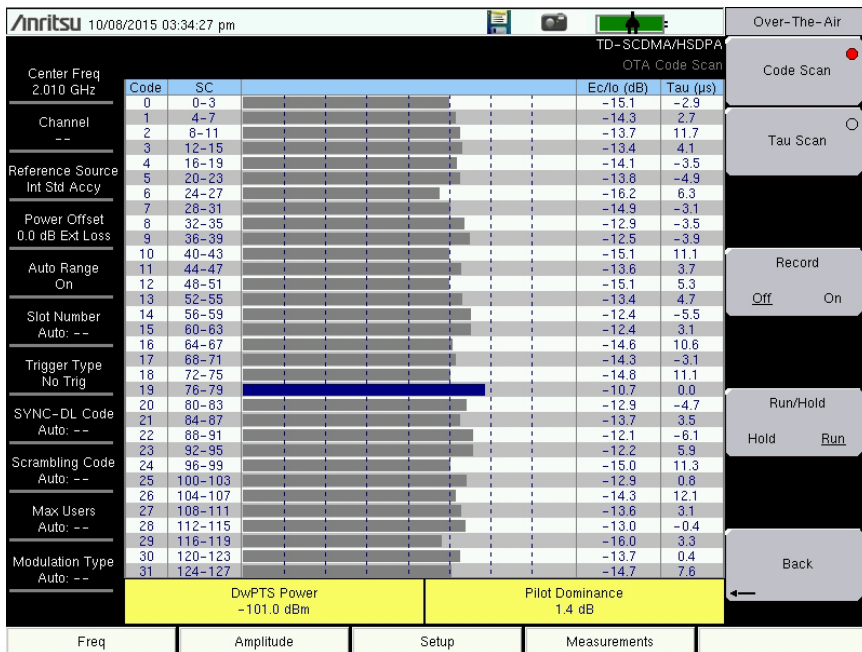

Figure 4-5. TD-SCDMA/HSPA+ OTA Code Scan
Scans and displays the power of all 32 SYNC-DL codes in sequential order, including Ec/Io (dB) and Tau (µs). DwPTS Power and Pilot Dominance values are displayed below the table of codes (see Figure 4-5). The Scrambling Codes (SC) corresponding to each SYNC-DL code are also displayed next to each code for easy reference.